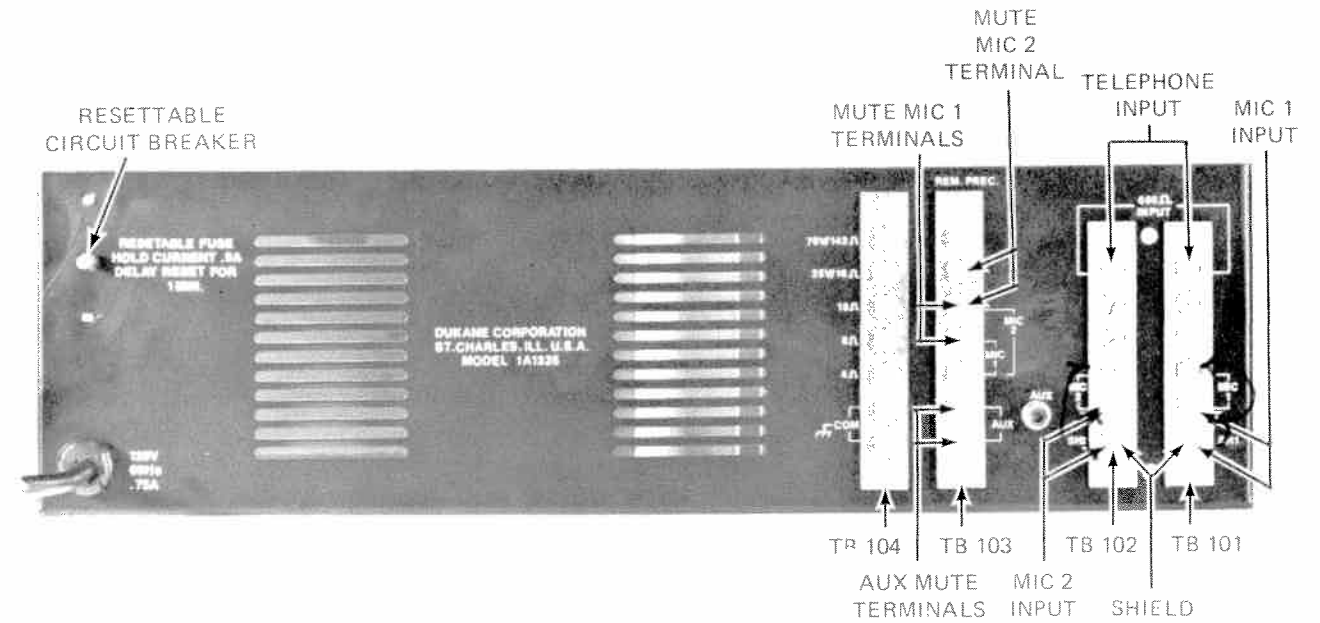

FIGURE 1
Make loudspeaker connections to terminal strip TB 104 on the rear panel of this amplifier (see Fig. 1). Connect one of the twisted pair speaker leads to the appropriate impedance (or voltage) terminal and the other lead to the COM terminal.
A switch closure causes muting of at least 50 dB to the input channel to be muted. Any other input will be unaffected and heard at its original level. The cable should be a twisted pair, and may be an unlimited length. The terminals to mute MIC 1 input are terminals 4 and 5 on TB 103 (see Fig. 1). The terminals to mute MIC 2 input are terminals 3 and 5 on TB 103, and the terminals to mute an auxiliary input are terminals 6 and 7 on TB 103.
C. Input Connections (when identifying input terminals, refer to Fig. 1)